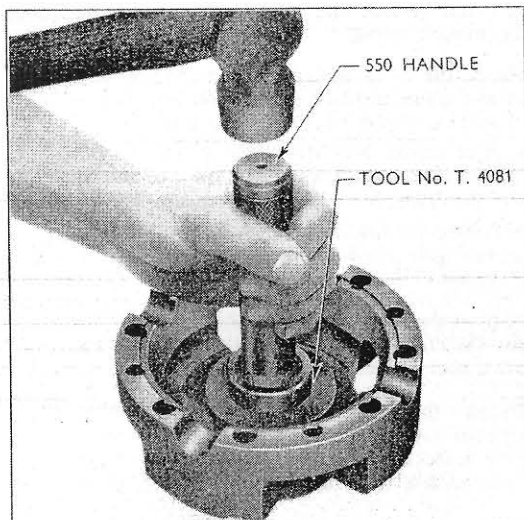

Fig. 17
3. Drive the new bush into the differential casing using Tool No. T.4081 with the 550 handle as illustrated in Fig. 17. The bush should be driven into position from the inside of the differential casing until the large diameter shoulder of the tool contacts the machined thrust washer face of the casing.